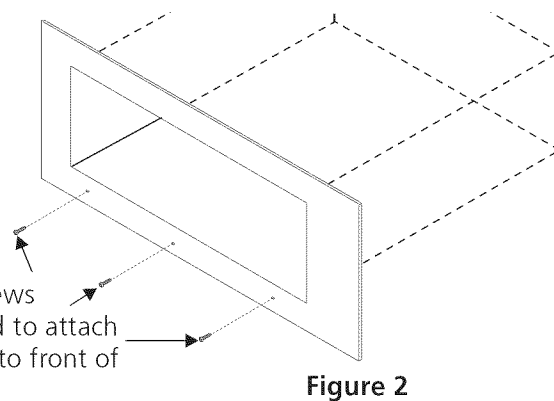

Figure 2
3. Remove the drawer as instructed in the Use & Care Guide and secure the drawer housing to the cabinet using the 2 black head screws (10-16 X 3/4") supplied (see Figure 2). **Do not overtighten screws.**